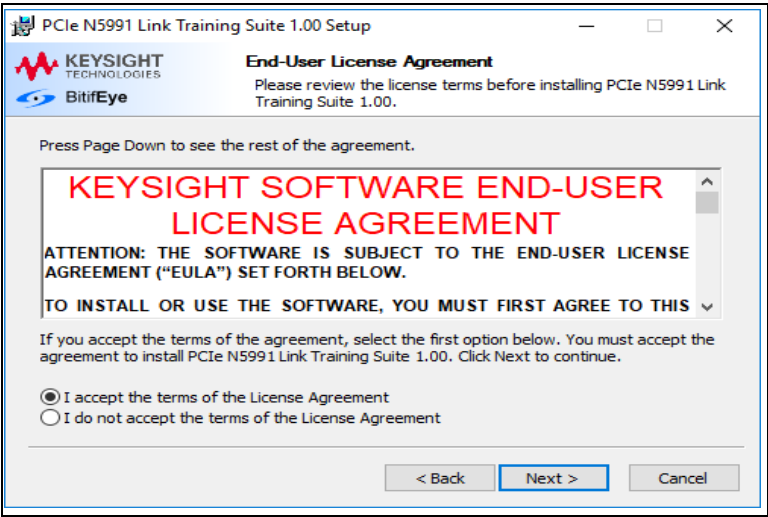
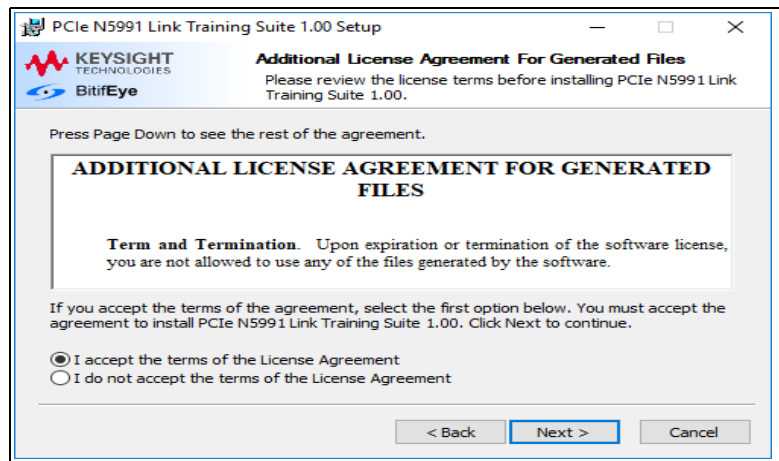

Figure 2 Installer License Agreement Window
Figure 3 Installer Additional License Agreement Window
- The second and third page of the installer wizard will show the software license agreement (see Figure 2 and Figure 3).